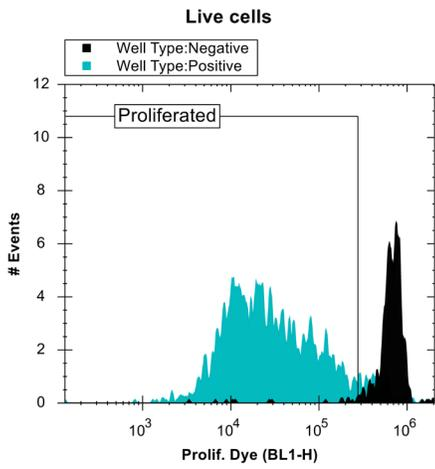

Figure 8. Histogram Overlay of Proliferating or Non-Proliferating T Cell Populations..
- 16.2.3 (Optional) Live and Proliferating Cells (**Figure 8**)